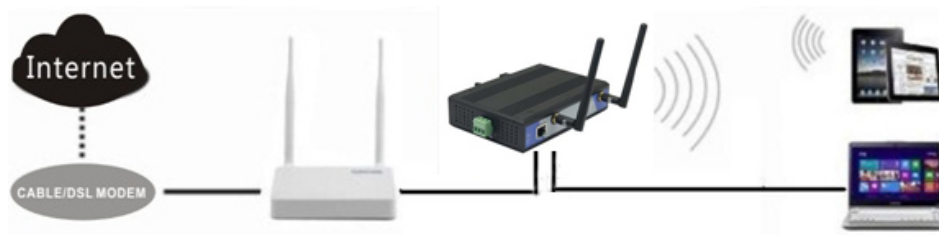

Fig. 6 AP mode
- ◎ AP mode: When the equipment is operated under this mode, the equipment can be connected to the Internet router with the network cable. For cellphones or computers etc., the wireless equipment can be connected to the Internet through the UT-9021, see Fig. 6.